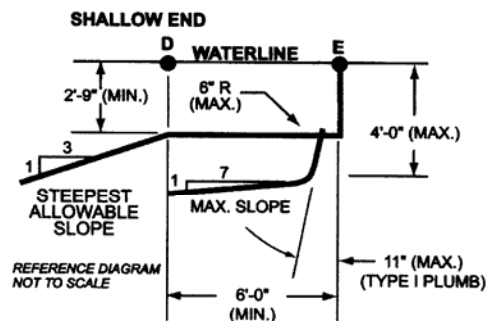

Figure 5- Shallow end depths
**5.6.1** The slope of the floor from the shallow end wall towards the deep area shall not exceed 1 foot in 7 feet (30 cm: 213 cm) to the point of the first slope change as shown in figure 5.
**5.7 Shallow end water depths.** Water depth in the shallow area shall be a minimum of 2 feet 9 inches (83.8 cm) except for those locations specified in 6.3 "Shallow End Detail for Beach and Sloping Entries." The water depth at the shallowest point shall not exceed four feet (121.9 cm) as shown in figure 5.